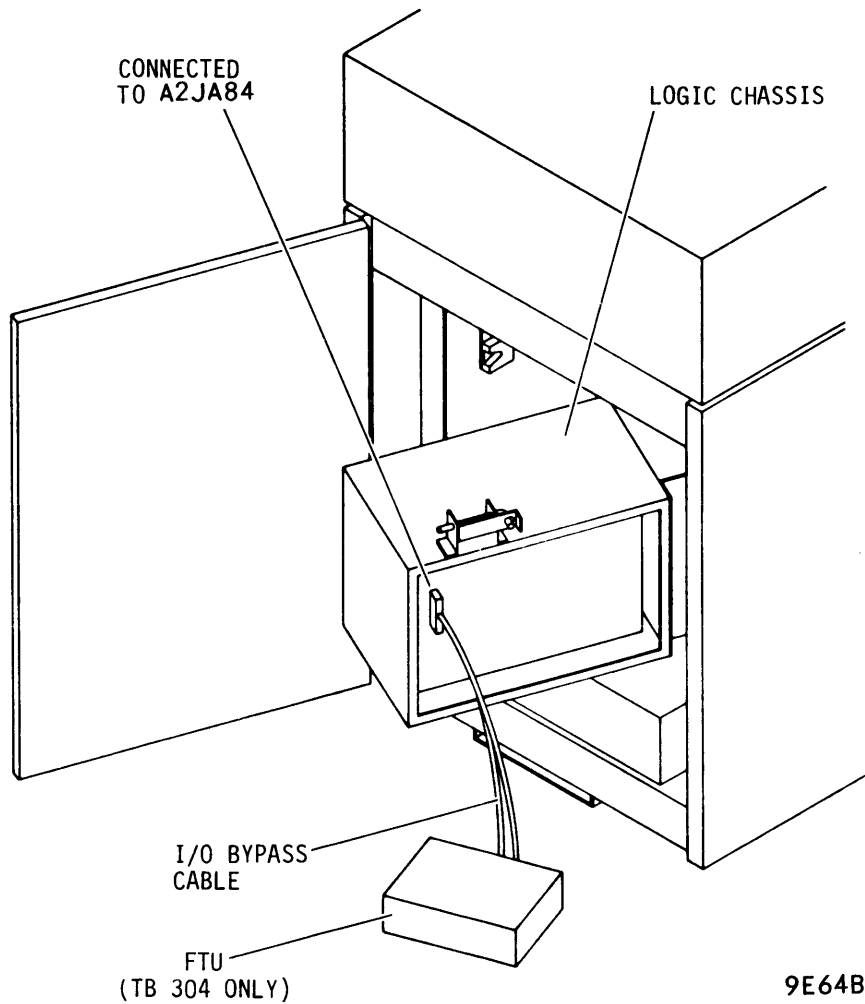

Figure 2-2. FTU to Drive I/O Bypass Connection
6. Connect FTU I/O bypass cable from FTU to A2JA84 on drive backpanel (refer to figure 2-2), then proceed to step 8.